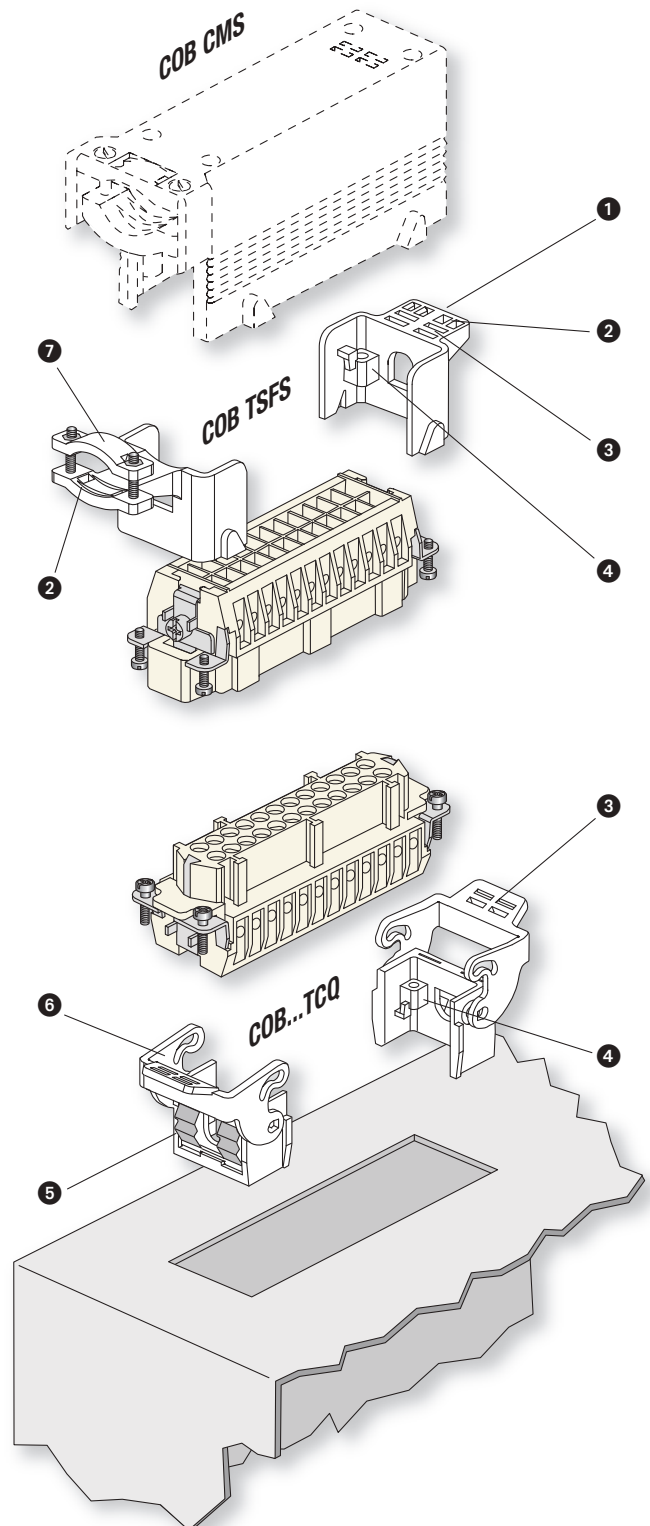

Figure 1:
- On panels with window snap fastening device **(Figure 1)**.